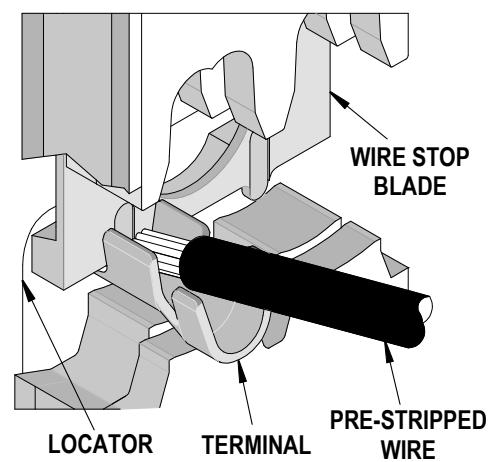

Figure 1
6. Slide the pre-stripped wire into the terminal; make sure to aim the wire brush towards the tip point on the wire stop blade. See Figure 1. Align the wire so that it is parallel and sitting into the terminal. Maintain a light and constant pressure on the wire that is seated in the terminal at all times. (Do not let go of the wire.) Be sure to hold the wire and terminal in place until the terminal is fully crimped. See Figure 2.